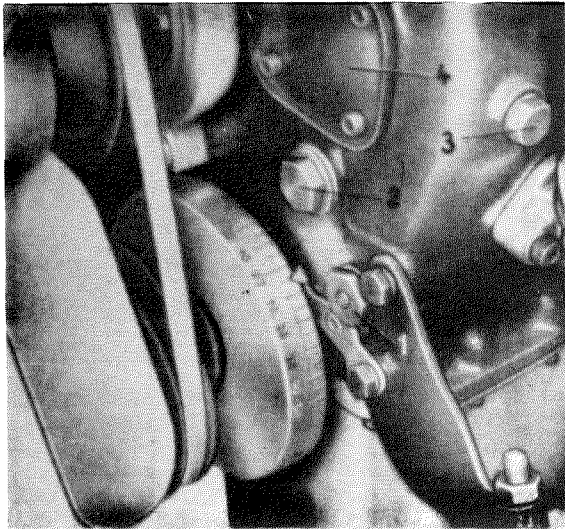

Fig. 01—3/31
1. Use Socket SW 22 (with ratchet) on the shoulder nut to turn the crankshaft in the direction of rotation of the engine to the point where the timing pointer indicates TDC (Fig. 01—3/31).